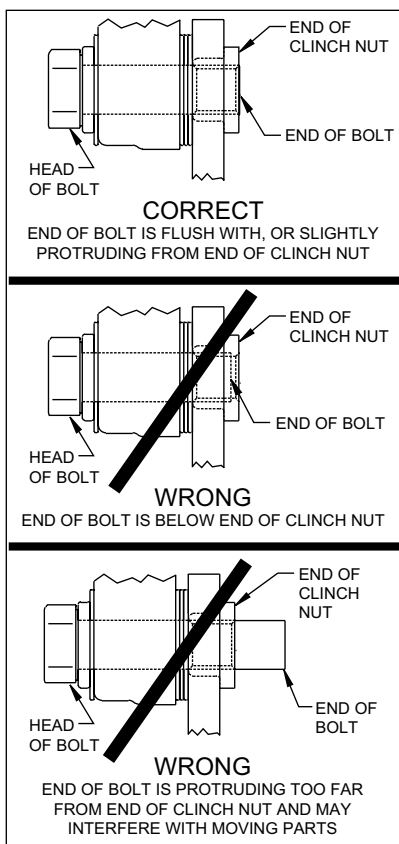

Figure 4.
CAUTION: All mounting bolts must fully engage clinch nuts. Be sure to check that all bolts are either flush or protruding through flanged side of clinch nut after shimming, Figure 4.
the caliper and the bracket. Ensure that the caliper is mounted so the largest pistons are at the rotor exit end of the caliper, in relation to the direction of rotor rotation. Temporarily tighten the mounting bolts and view the rotor (9) through the top opening of the caliper. The rotor should be centered in the caliper. If not, adjust by adding or subtracting shims (19) between the bracket and the caliper. Always use the same amount of shims on each of the two mounting bolts. **NOTE:** The end of the bolt must be flush with or slightly protruding from the head of the clinch nut in the bracket. If necessary, place spare shims between the washer and the caliper mounting ear to achieve the proper clinch nut engagement, as shown in Figure 4. Always use the same amount of shims on both the top and bottom caliper mounting bolts. Once the caliper alignment and clinch nut engagement are correct, remove the mounting bolts and caliper.